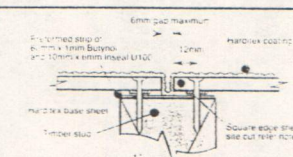

Fig. 3 Vertical Butynol Inseal relief joint alternative 1
- For details of alternative vertical relief joints refer Figs 3, 4 and 5.
- The sheet edge is to be site cut to give a square edge as shown in Figs 3 and 4. Refer also to the site cutting recommendations on page 11. The frame set out and joint positioning in the wall will need to allow for this reduced sheet width.